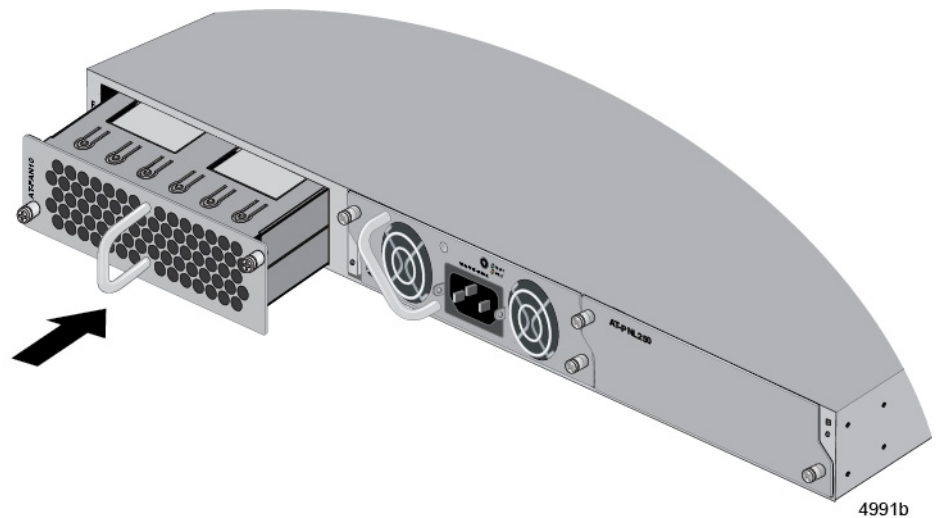

Figure 75. Aligning the FAN10 / FAN10R Module in the Switch Slot
1. Remove the new fan module from its shipping box. Align the fan module in the slot, with the module name on the left. Refer to Figure 75.